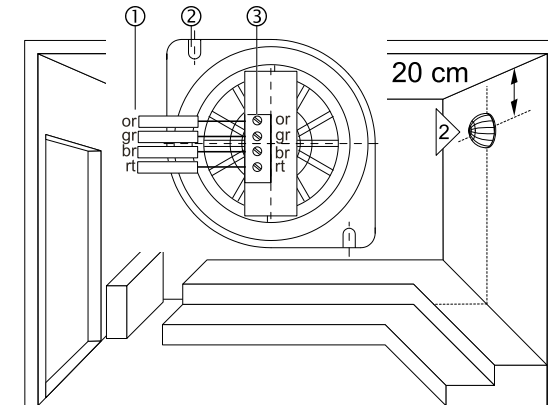

Fig. 8 Installing bench sensor FTS2
1. Connect the lines (Fig. 8/Item 1) on the bench sensor as shown (Fig. 8/Item 3).
2. Fasten the bench sensor to the wall at the centre above the sauna bench at a distance of 20 cm to the ceiling using the screws provided. The screws are guided through the openings (Fig. 8/Item 2).